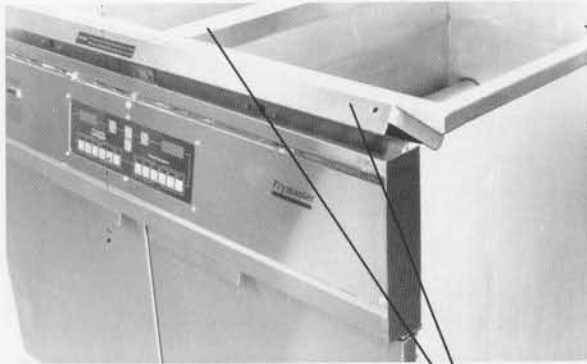

Figure 18
- Remove connecting strip (Fig. 18).